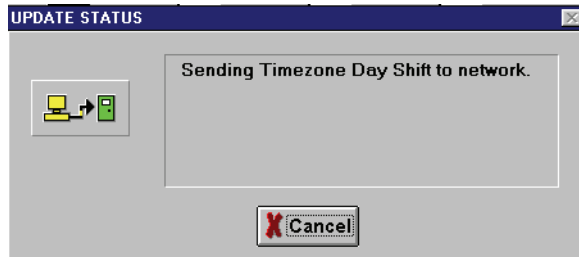
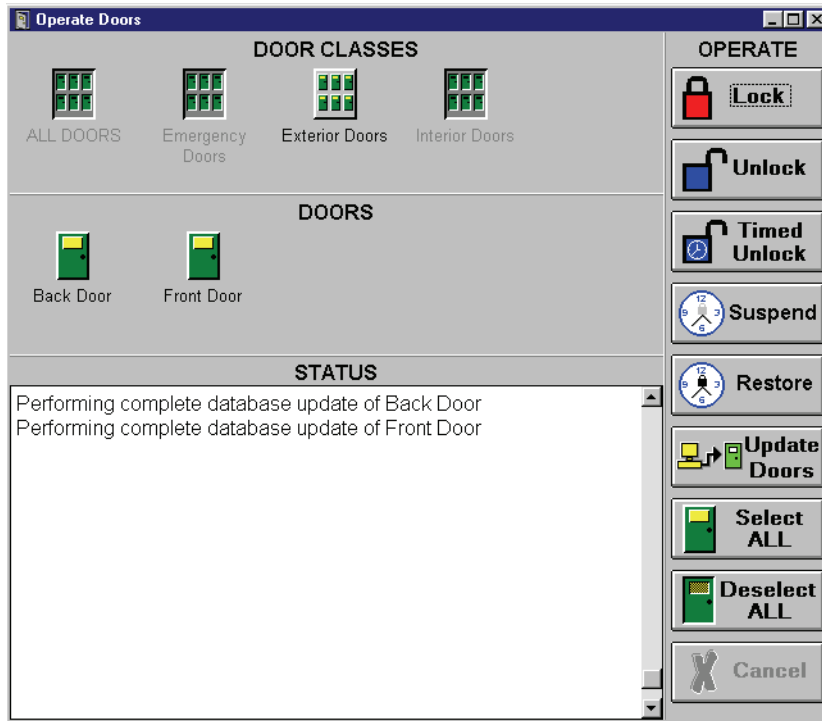
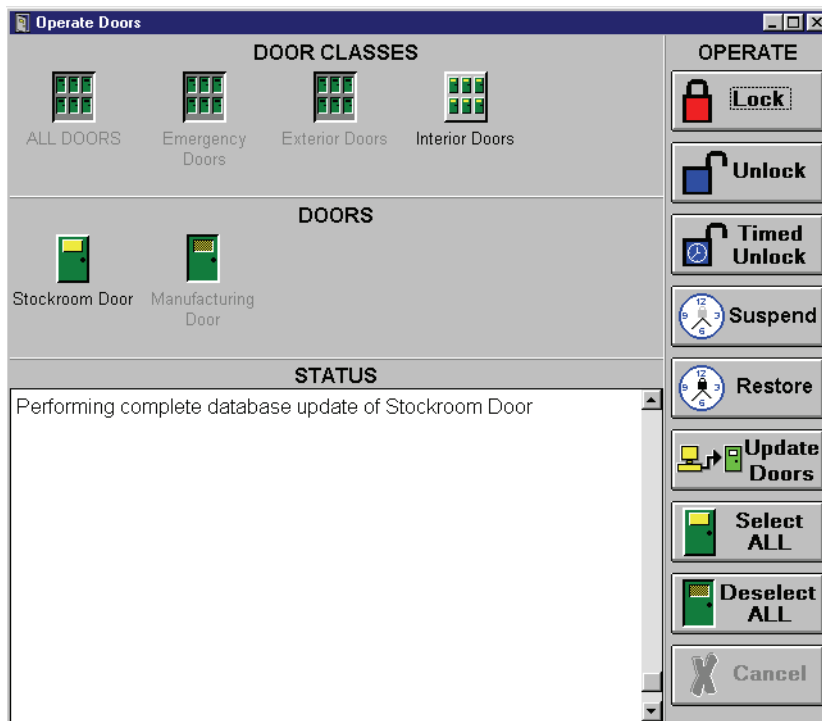

Figure 6-23: Transferring Data Status Windows
Figure 6-25: Updating All Doors in a Door Class
Figure 6-26: Updating a Single Door
2. Click on the  button, and then click on the  button. A series of status windows appear (see Figure 6-23), tracking the data being transferred to all the doors/controllers.
2. Click on the  button, and then click on the  button. A series of status windows appear (see Figure 6-23 on page 23 of this section), tracking the data being transferred to all the doors/controllers. The resulting window will look similar to Figure 6-25.
3. Click on the  **Update Doors** button. A series of status windows will appear (see Figure 6-23 on page 23 of this section), tracking the data being transferred to all the doors/controllers. The resulting window will look similar to Figure 6-26.